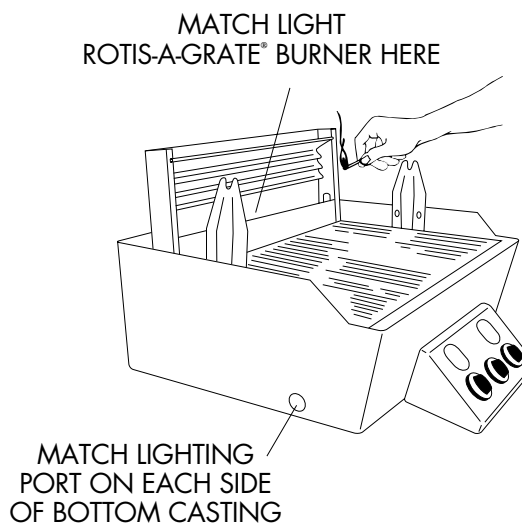

FIG. 16
- d. If rotis burner fails to light within 5 seconds, turn gas off and wait 5 minutes before trying to relight by spark or match. (See Fig. 15 and Fig. 16)
- b. Insert lighted match into lighting hole on left side (wooden match or fireplace match is preferred). (See Fig. 16)
- b. Insert lighted match into lighting hole on right side (wooden match or fireplace match is preferred). (See Fig. 16)
- a. Place lighted match (fireplace match is recommended) over center of burner. (See Fig. 16)